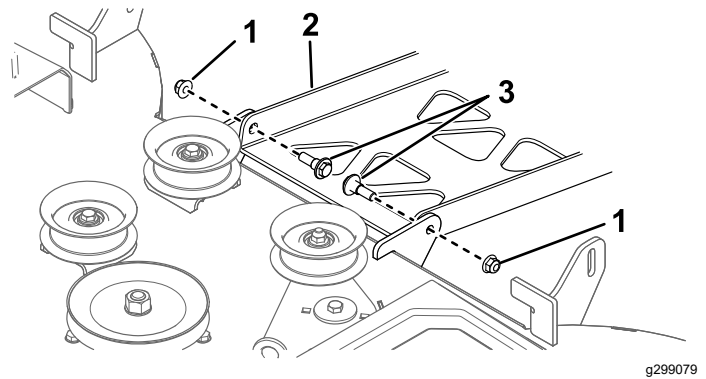

Figure 62
- At the rear of the mower deck, remove the 2 shoulder bolts and nuts securing the deck to the pivot pan (Figure 62).
9. Secure the rear of the deck to the pivot pan using the shoulder bolts and nuts removed previously (Figure 62).